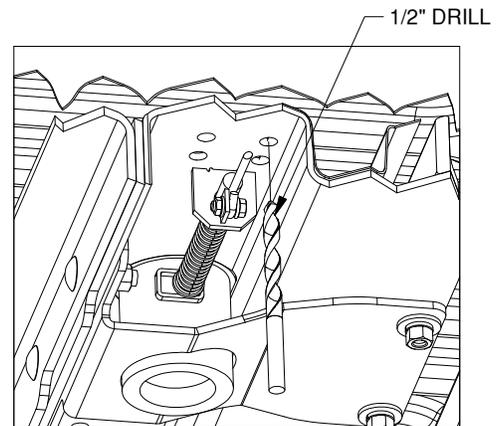

Figure I2: Cutaway view of bed and center section.
- 1. Drill the holes.** From under the bed use a drill and a 1/2" drill bit to drill through the bed using the four holes that match up with a low rib in the truck as a guide. Remove any burrs created during the drilling process, see Figure I2.